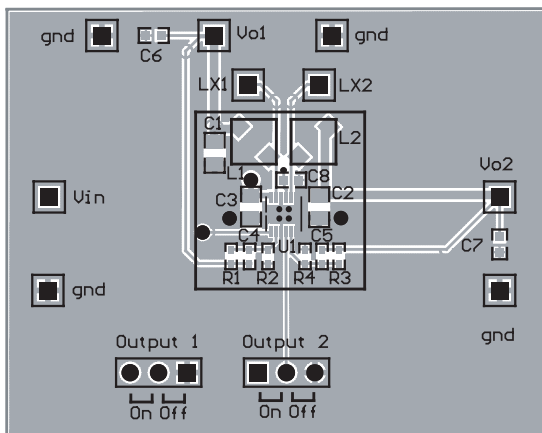

Figure 4: AAT2512 Evaluation Board Top Side.
1. Due to the pin placement of  $V_{IN}$  for both converters, proper decoupling is not possible with just one input capacitor. The large input capacitor C3 should connect as closely as possible to  $V_P$  and GND, as shown in Figure 4. The additional input bypass capacitor C8 is necessary for proper high frequency decoupling of the second converter.